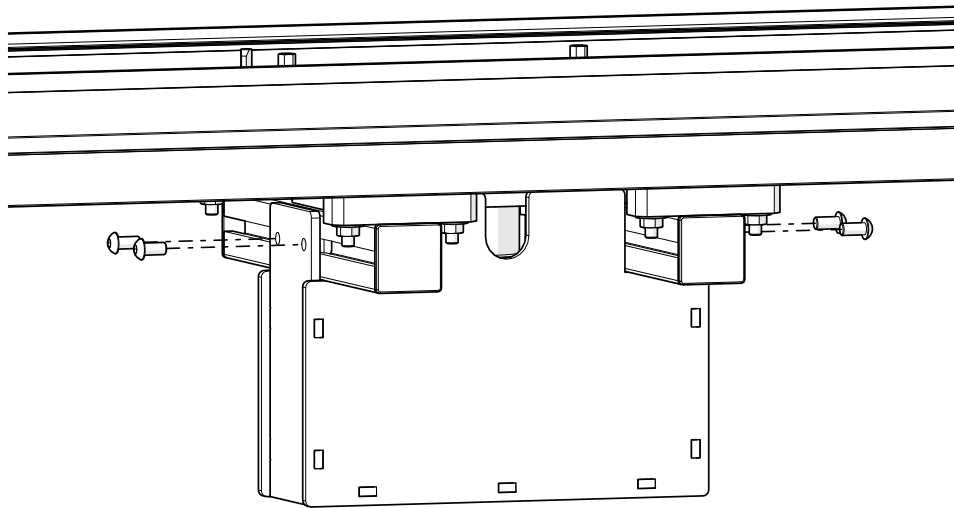

Figure 8: Securing Guards
Step 5: Once the M8 BHCS are tightened, installation of the guarding is complete as shown in Figure 8.